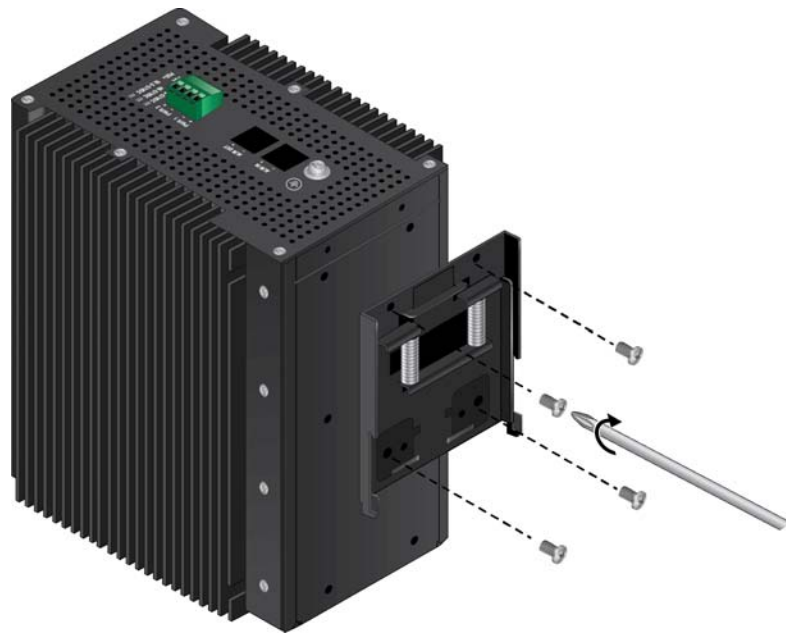

Figure 24. Removing the DIN Rail Bracket from the Switch
2. With a Phillips-head screwdriver, remove the four screws holding the pre-installed DIN rail bracket, and remove the bracket. Refer to Figure 24.
2. With a Phillips-head screwdriver, remove the four screws holding the pre-installed DIN rail bracket, and remove the bracket. Refer to Figure 24 on page 76.